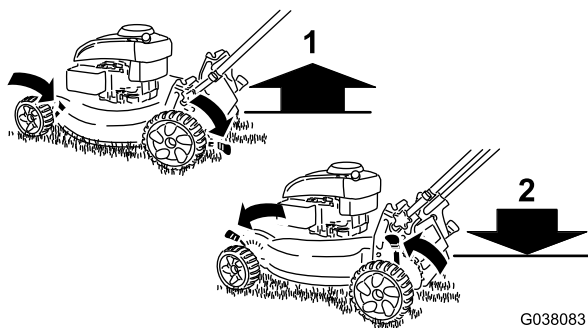

Figure 10
**Note:** To raise the machine, move all the cutting-height levers rearward. To lower the machine, move all the cutting-height levers forward (Figure 10).